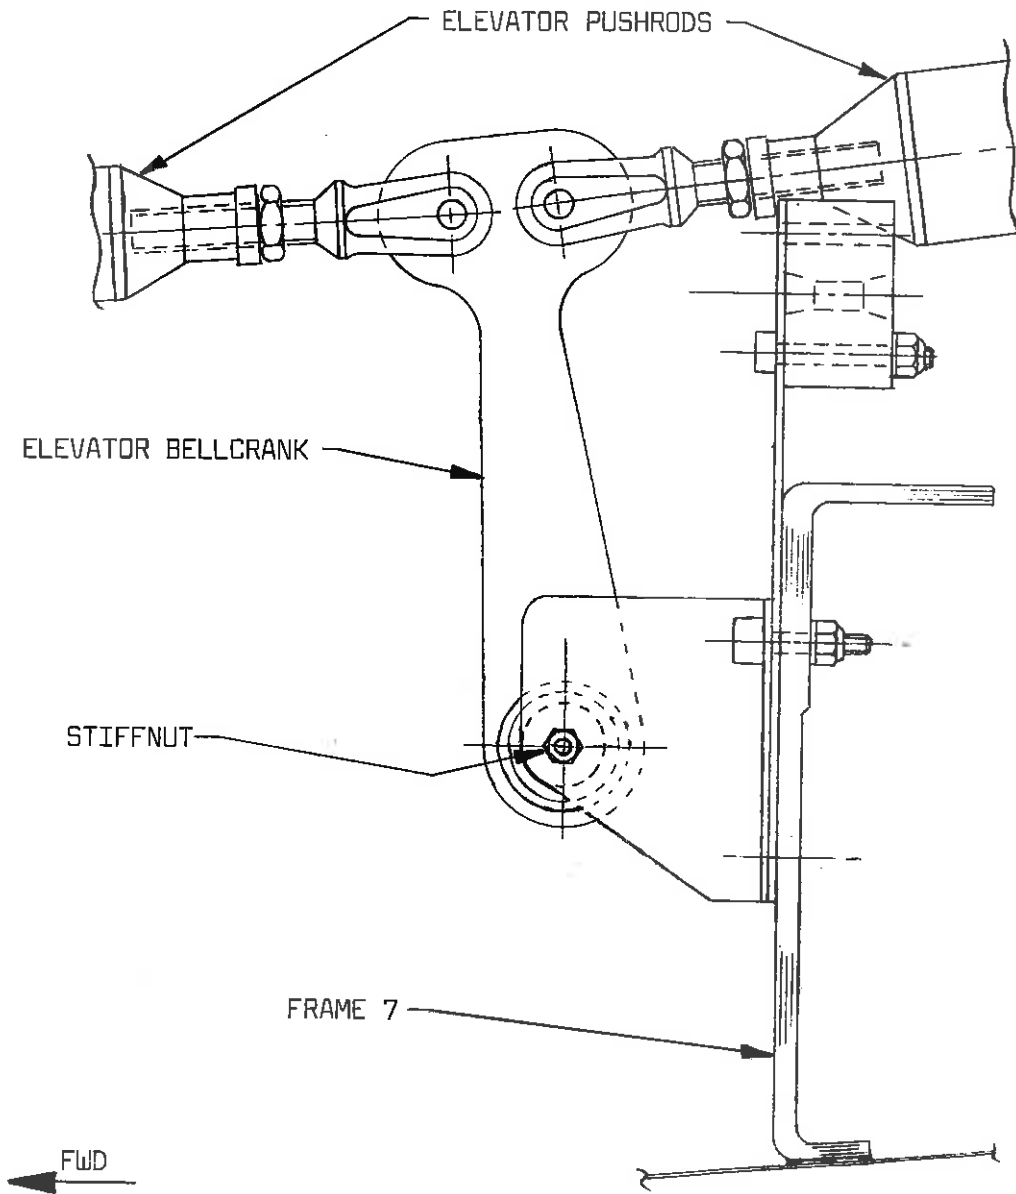

FIG 1
2. Inspect the pivot stiffnut ref Fig. 1 for signs of backing off.